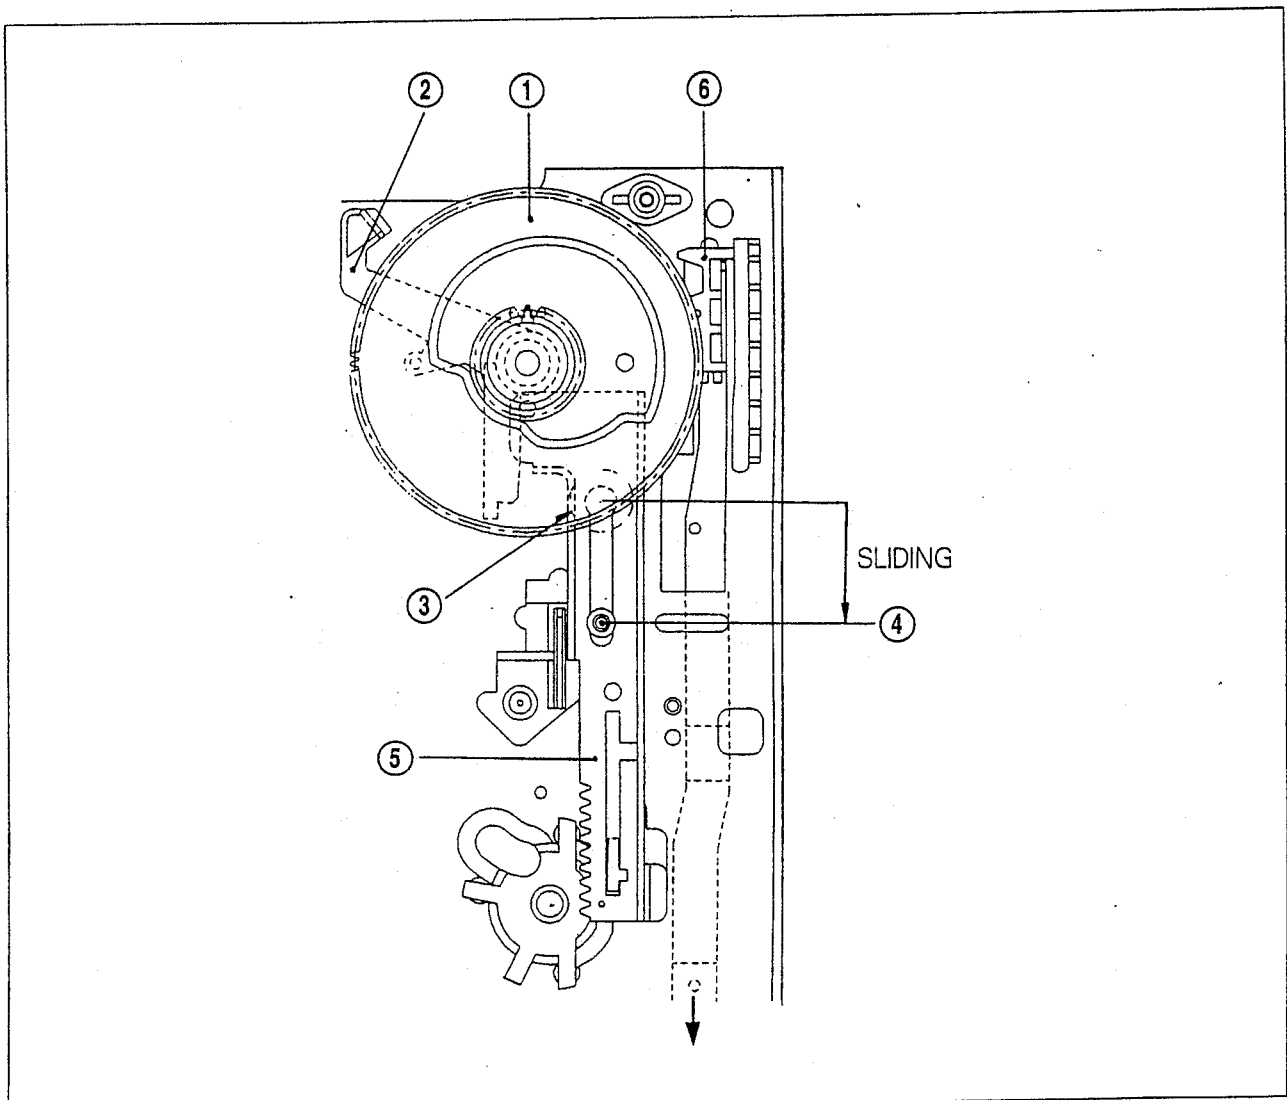

Fig. 3-7
8. REPLACEMENT OF THE CAM GEAR, RELAY PLATE, F/L RACK (See Fig. 3-7)